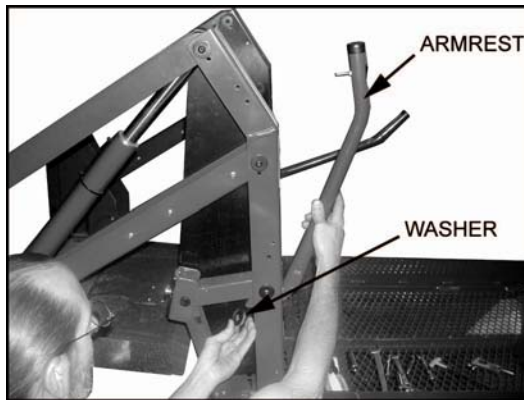

FIGURE 3-28
3. Refer to **Figure 3-28**. Remove nut and bolt to detach left hand armrest from knuckle arm assembly.
4. Refer to **Figure 3-28**. Lift left hand armrest to remove rubber washer.